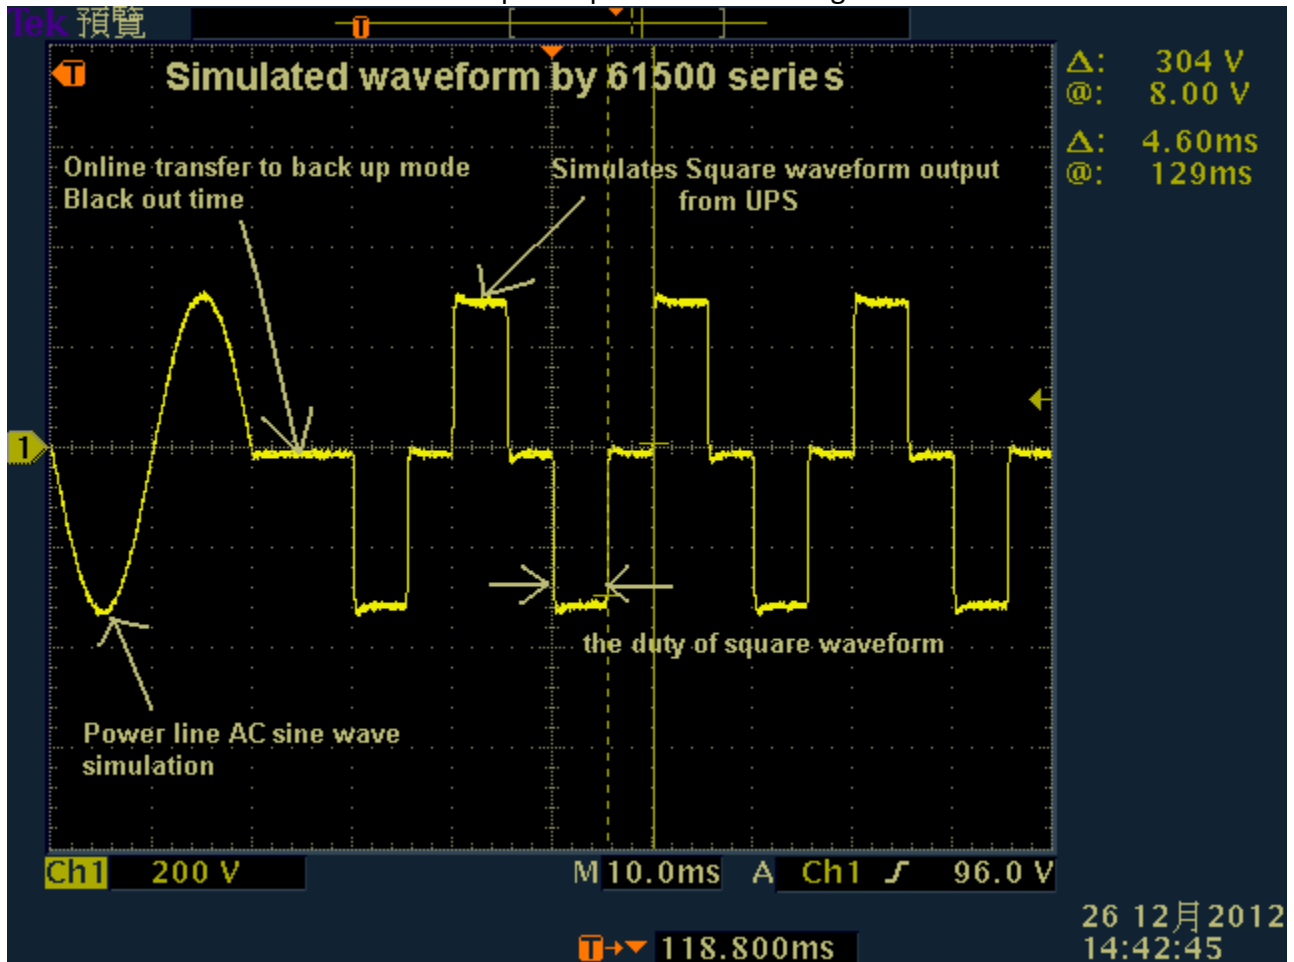
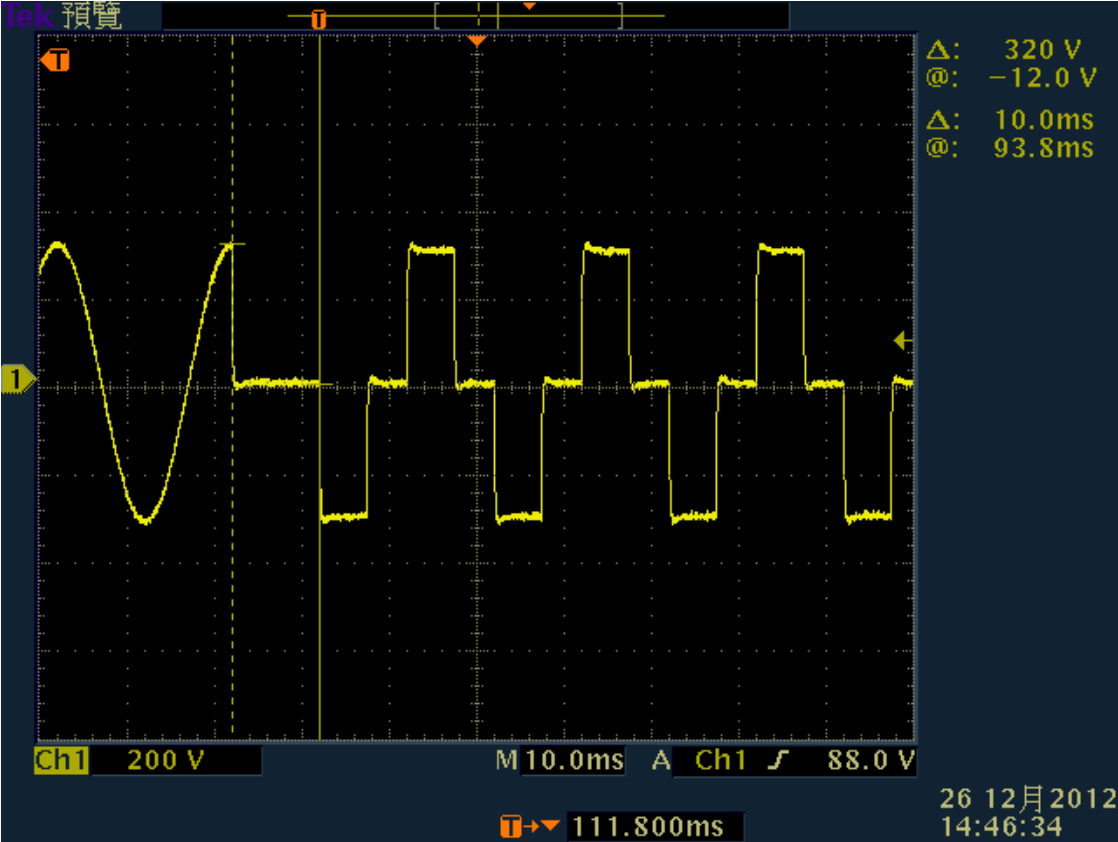

Figure 2
Figure 9 : 90° phase angle black out
- Figure 2, is an actual waveform from Chroma 61500 AC source output. The output waveform simulates that UPS quasi square wave after a grid sine wave black out.
After set "Sequence Index" 0~2, and push Trig On , then AC source will output as figure2 and figure 9 waveform.